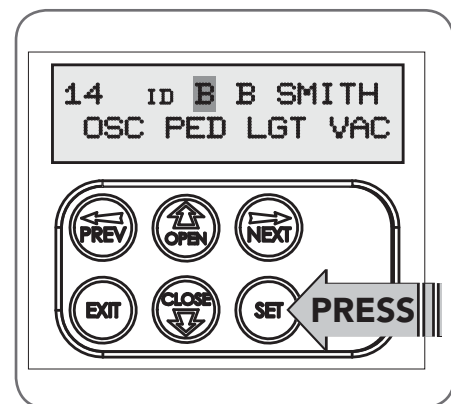

Fig G.5
- Press SET to record changes (**Fig. G.5**).